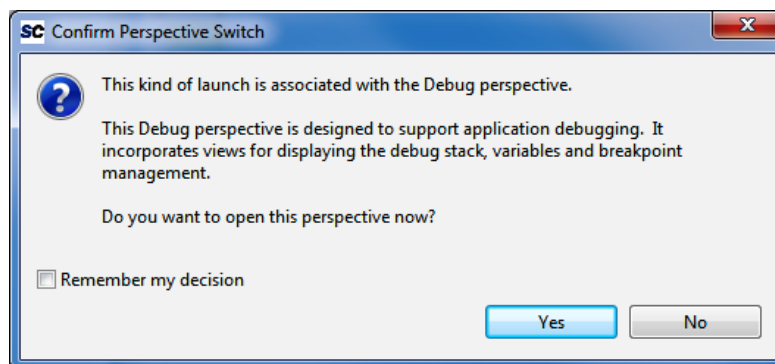

Figure 28 • Confirm Perspective Switch
6. Click **Yes**, when prompted for Confirm Perspective Switch as shown in Figure 28